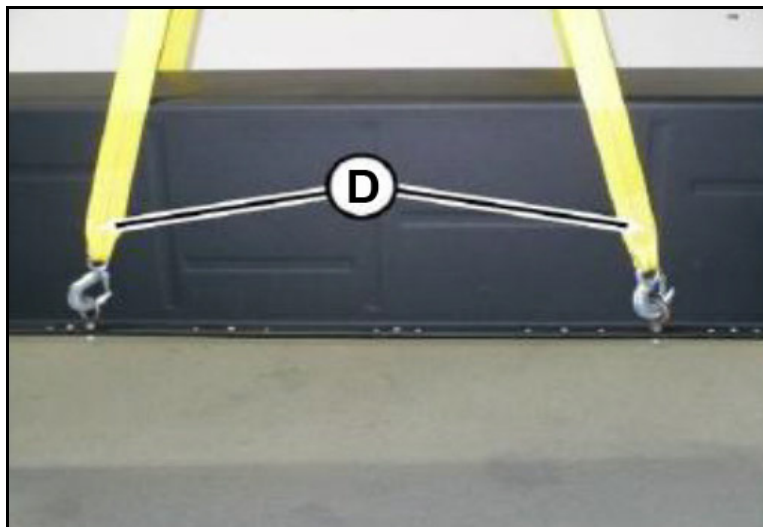

Figure 4D
4.4. Ensure the lift straps (Figure 4D) are properly routed and free of knots. Using appropriate lifting device, lift the HV Battery Pack and locate it to desired location.